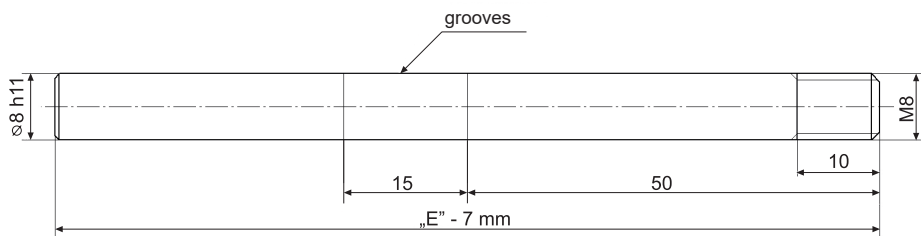

Fig. 23: Detail of a drawing of a rod electrode
1. Create your own electrode as shown on Fig. 23 or 24. The length of the electrode must be about 7 mm shorter than the dimension "E" in figure 23. The material of the electrode is recommended to be used stainless steel type 1.4404 (AISI 316 L) or similar depending on the application.
2. Shorten the rod electrode by means of a suitable metal saw and file the end of the electrode. The length of this electrode must be 7 mm shorter than dimension "E" in pic. 31. At the rope electrode, it is necessary to loosen three fastening screws on the ballast and to pull out the end of the cable, see fig. 23. Make sure that the cable length is correct after shortening – the cable is suspended in the ballast up to a distance of approximately 60 mm. Ideally, shorten the cable using diagonal cutting pliers. Be careful to prevent the end of the cable from fraying.